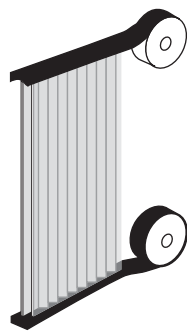

Figure 17b.
- C. **Sealing the Sheets** is done by aluminum impermeable, or ventilated filter sticky tapes, as described in the paragraph “Pre-preparation of the sheet” above. Such specialty tapes can be obtained from the leading tape manufacturers, or through PALRAM dealers (See figures 17b, 17c).